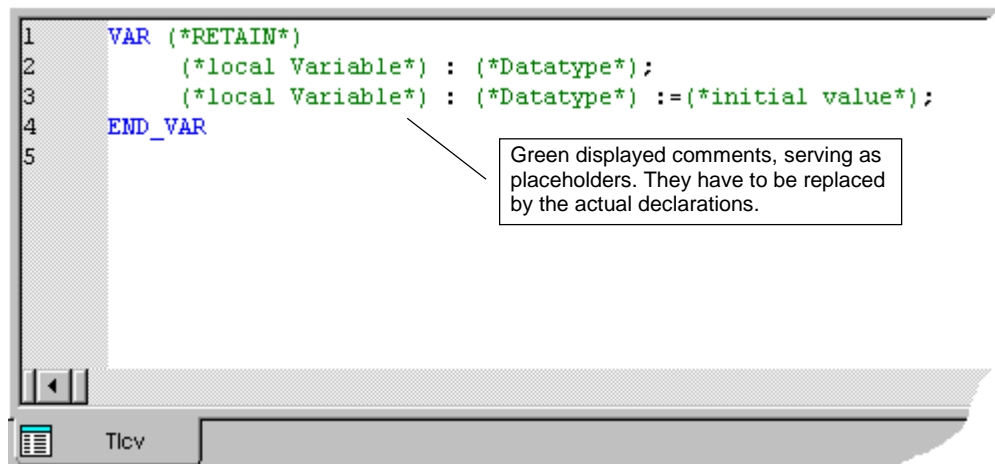

Figure 5-23: Variable worksheet with pre-edited keyword 'VAR', inserted using the Edit Wizard
- In the list of available keywords in the Edit Wizard double click on the keyword 'VAR'. It is automatically inserted at the text cursor position. The actual variable declarations are replaced by comments (green text, enclosed by parentheses and asterisks) as shown in figure 5-23.
- Press <↵> to insert the keyword. It is inserted automatically at the text cursor position. The actual variable declarations are replaced by comments (green text, enclosed by parentheses and asterisks) as shown in figure 5-23.